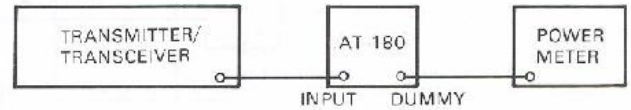

Fig. 1
- Connect as in Fig. 1
As in Fig. 1.